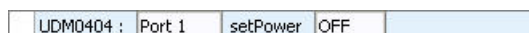

FIG. 229 Macro Block added to the Event Window
- Double-click on one of the *Functions* macros to add the representative macro block to the Event Window (FIG. 229):